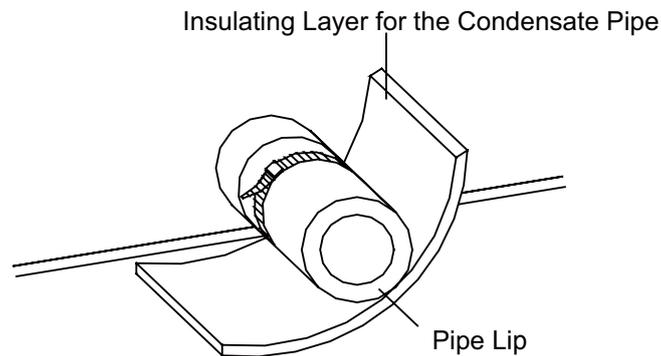

Fig.13 Thermal Insulation of the Condensate Pipe
- (1). The condensate pipe should keep a downward sloping angle of  $5 \sim 10^\circ$ , which can facilitate the drainage of the condensate water. And the joints of the condensate pipe should be insulated by insulation material to prevent condensation(see Fig.13).